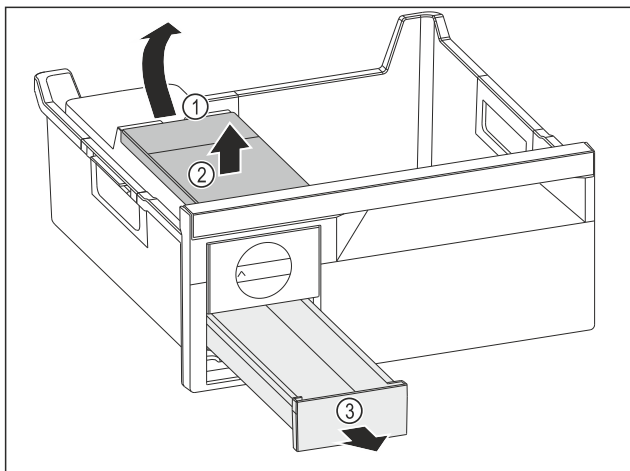

Fig. 147
- ▶ Removing the water tank: Lift the water tank by the recess Fig. 147 (1).
- ▶ Remove the water tank Fig. 147 (2) upwards.
- ▶ Remove the ice cube drawer Fig. 147 (3) to the front.